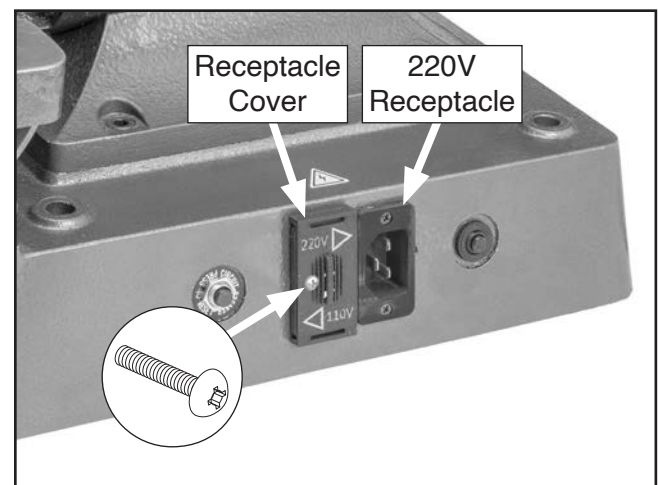

Figure 25. Location of 220V receptacle.
1. Connect 14AWG power cord with 6-15 plug to receptacle shown in **Figure 25**.
Note: Receptacle cover must be moved left to reveal red 220V connection receptacle. To move cover left, remove screw shown in **Figure 25**, move cover left, then install screw to secure.